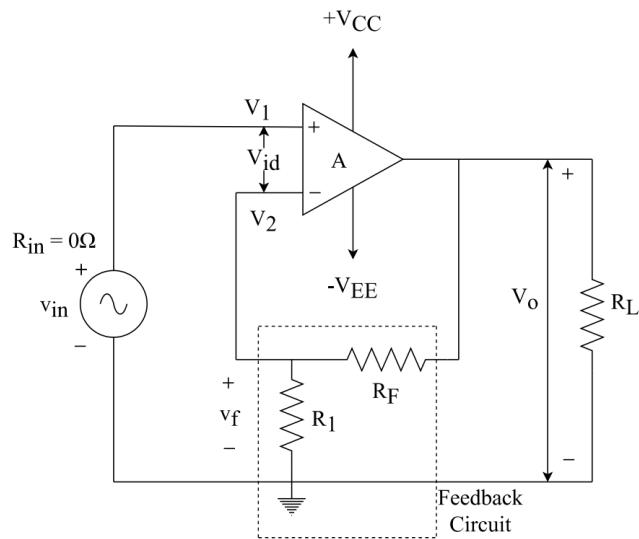

Figure 4.1: Circuit of Non-inverting amplifier
- Connect the circuit as shown in Fig. 4.1.